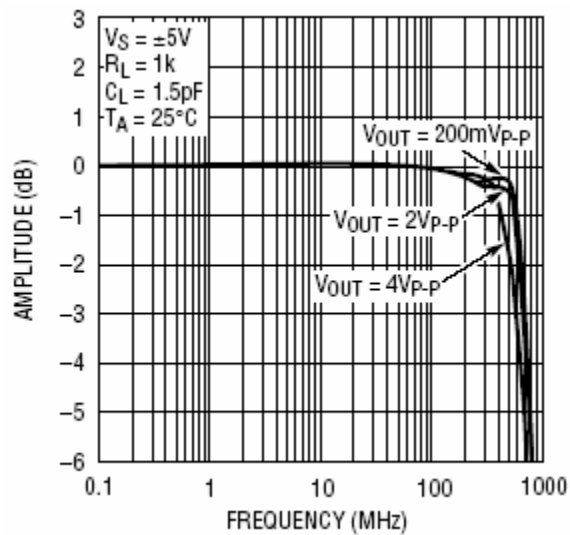

Figure 2. Typical Transmission Frequency Response
7. Connect a Network Analyzer (if used) to the appropriate channels to measure frequency response and crosstalk as desired. Figure 2 shows a typical transmission plot for 1k loading. Use of 75Ω loading with the DC794 as shipped will reduce the -3dB response to about 450MHz (and show a passband loss of -6dB). If the analyzer has only a low-impedance input, then the $R_L=1k\Omega$ condition can be simulated by installing 953Ω resistors in R1, R2, and R3 and providing a 26.05dB correction to the 50Ω analyzer reading (or 22.74dB for a 75Ω instrument).